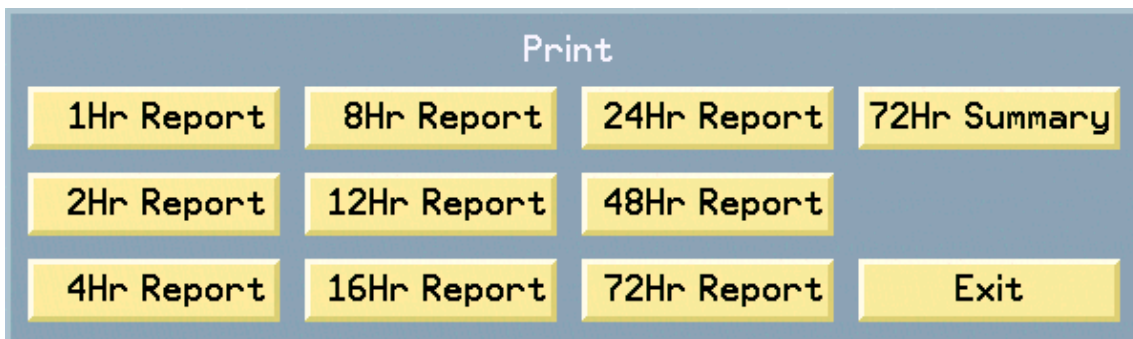

Fig. 76. Full Disclosure Report Popup
1. Press **Laser** on the Full Disclosure screen to display the Print popup (fig. 76).